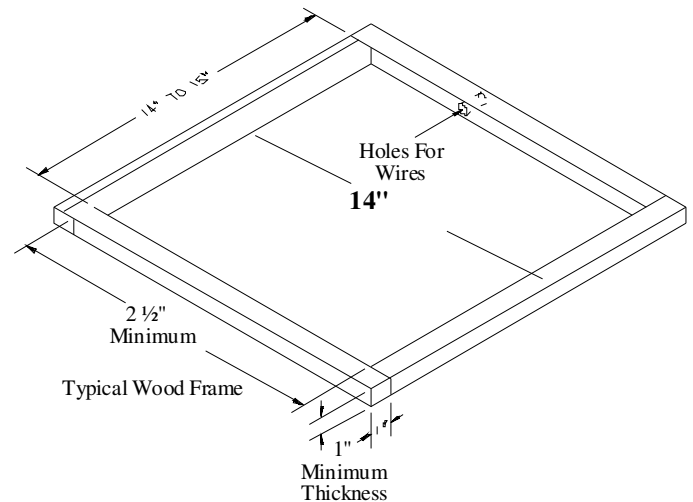

FIGURE 1
3. Examine the roof opening. If the opening is smaller than 14” x 14”, the opening must be enlarged. If the opening exceeds 15” x 15”, a mounting frame must be field fabricated to reduce the opening size (See Figure 1).
- B. If a roof vent opening is not used, a new opening (See Figure 1) will have to be cut into the vehicle roof. A matching opening will also have to be cut into the interior vehicle ceiling. Be careful when cutting the ceiling opening. If the ceiling opening is carpeted, snagging could occur. After the opening in the roof and interior ceiling are the correct size, a framed support structure must be provided between exterior roof top and interior ceiling. The reinforced framed structure must provide the following guidelines:
Airxcel’s 48000 series requires that the spacing from the vehicle roof top to the interior ceiling be no less than 1”. A typical support frame is shown in Figure 1.